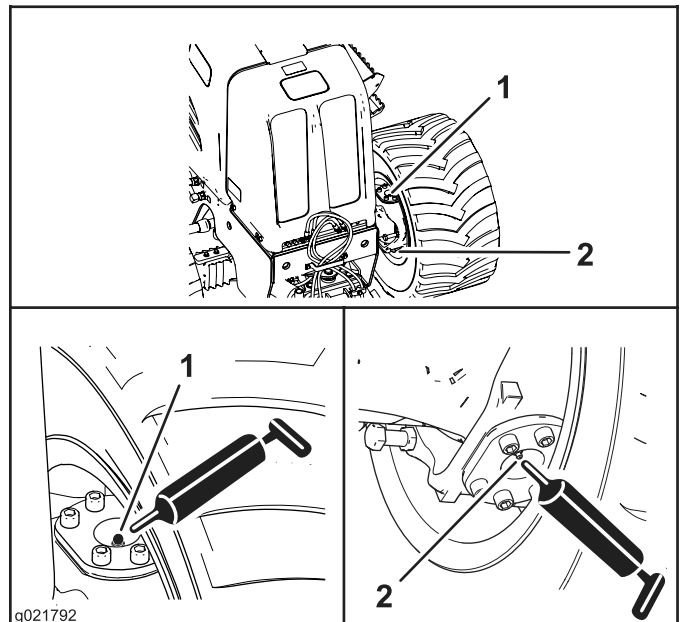
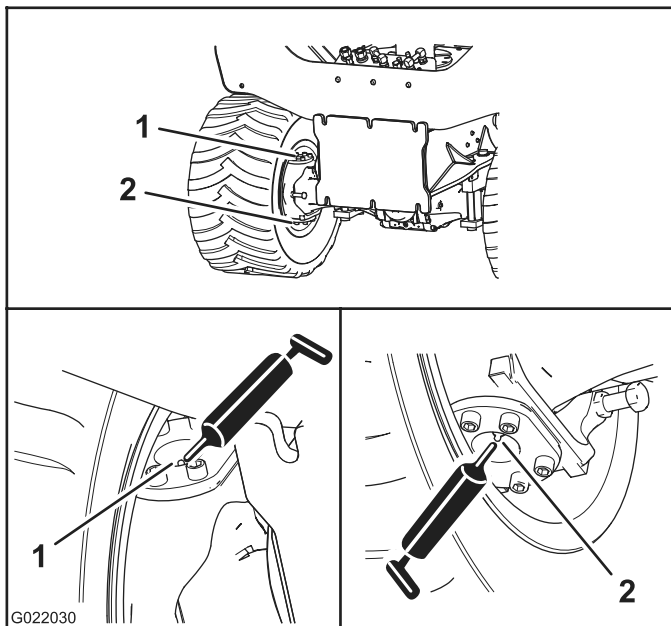

Figure 31
Figure 32
2. Connect the grease gun to the grease fittings for the upper and lower pivots; apply 2 or 3 pumps of grease to each fitting (Figure 31 and Figure 32).